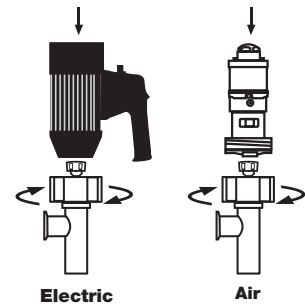

Figure 1
3. Couple the motor to the pump tube by using the Hex Nut (see Figure 1).